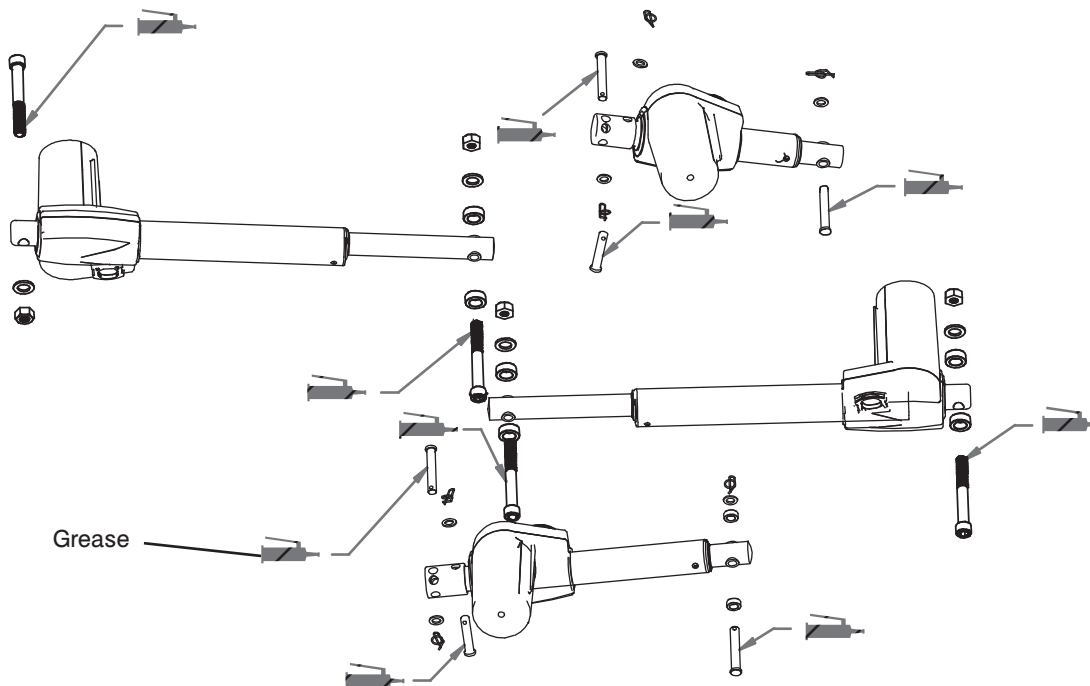

Figure 1
4. Unplug the power cord from the wall outlet and, the battery cord (refer to Figure 1, pg. 57) after removal of electrical box cover.